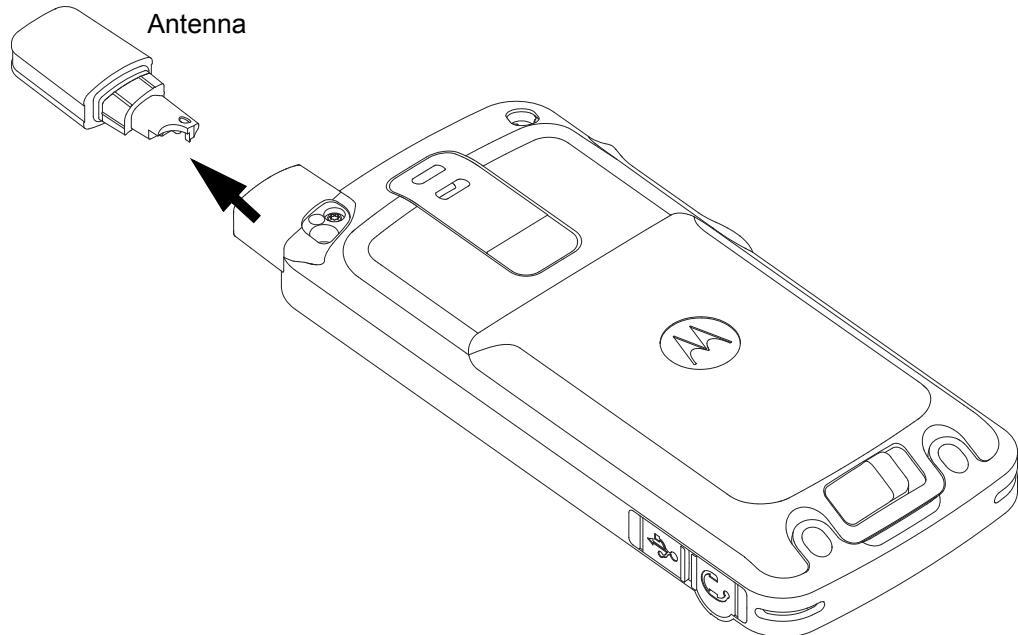

Figure 5-3. Antenna removal
4. Remove the antenna from the radio by pulling it upwards as shown in Figure 5-3.